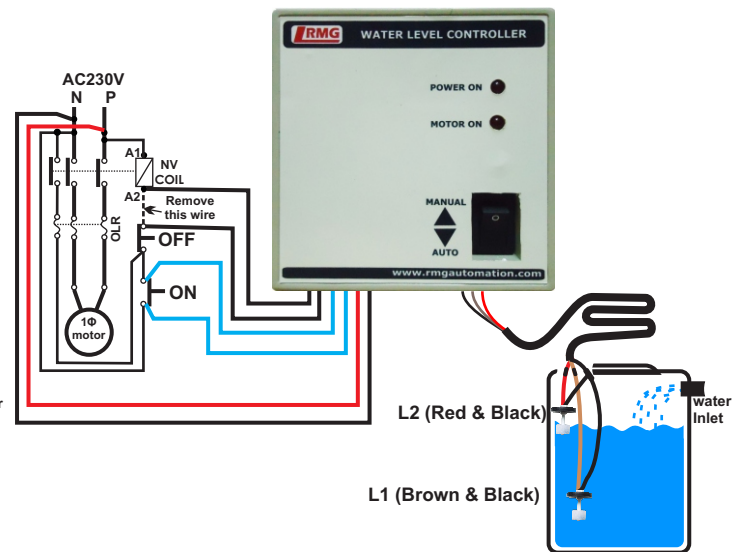

Figure 2: 1Φ Starter
Step 4: For starter, connect blue pair wire to ON button of starter in parallel and black pair wire to OFF button in series (Refer figure. 2)